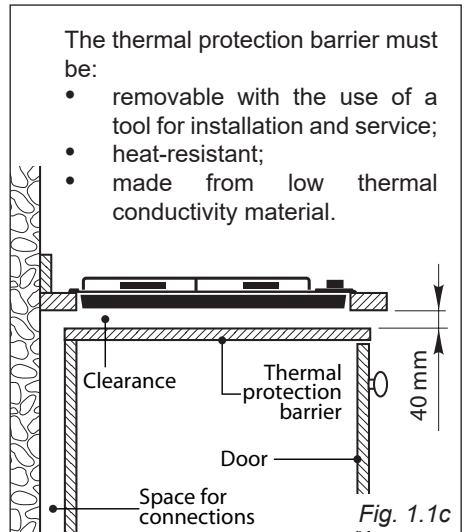

Fig. 1.1c
- If the base of the cooktop is accessible through a cupboard or drawer space after installation, a thermal protection barrier must be installed below the base of the cooktop as indicated in fig. 1.1c.